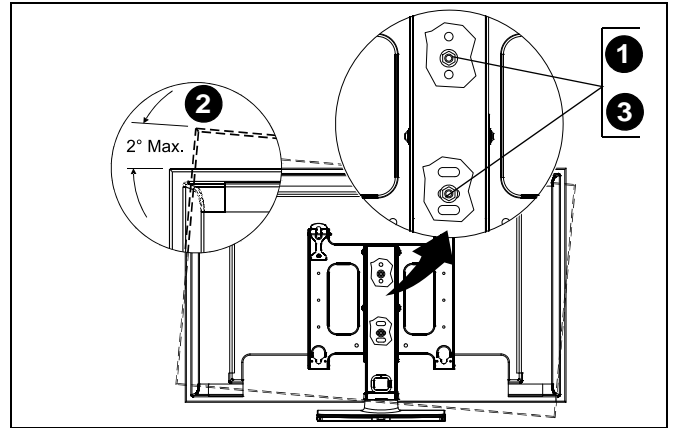

Figure 8
1. Loosen upper and lower roll adjustment nuts. (See Figure 8)